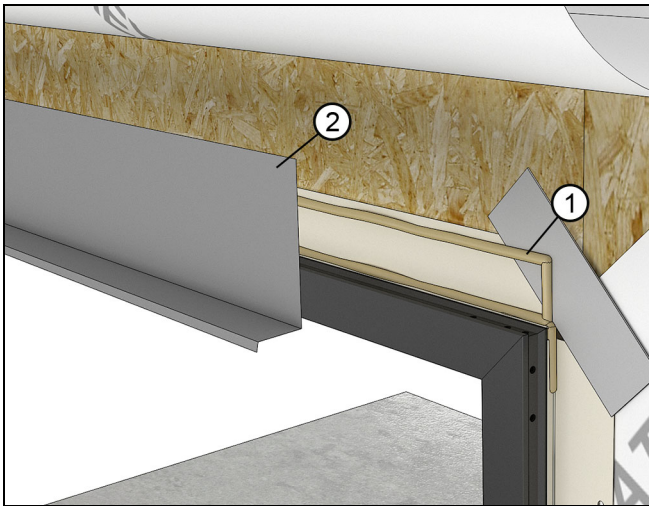

Figure 273
4. Install a rigid head flash. Apply sealant to all surfaces that will come in contact with the flashing. Flashing should extend past the window frame by at least 1/8" (3) on each side. See Figure 273.